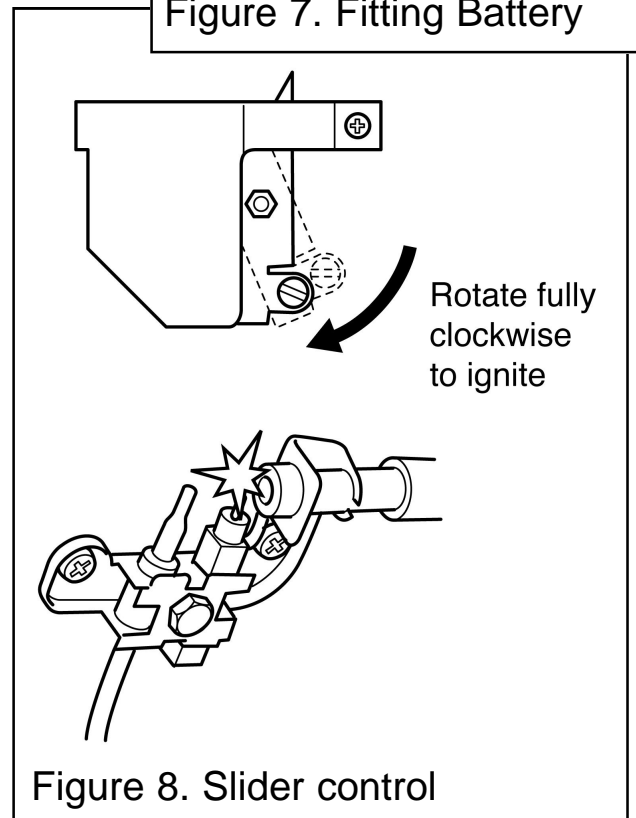

Figure 8. Slider control
- Depress the slider control as far as it will go. This should close the ignition circuit. Sparks should be seen tracking from the electrode pin to the pilot tip. See figure 8.